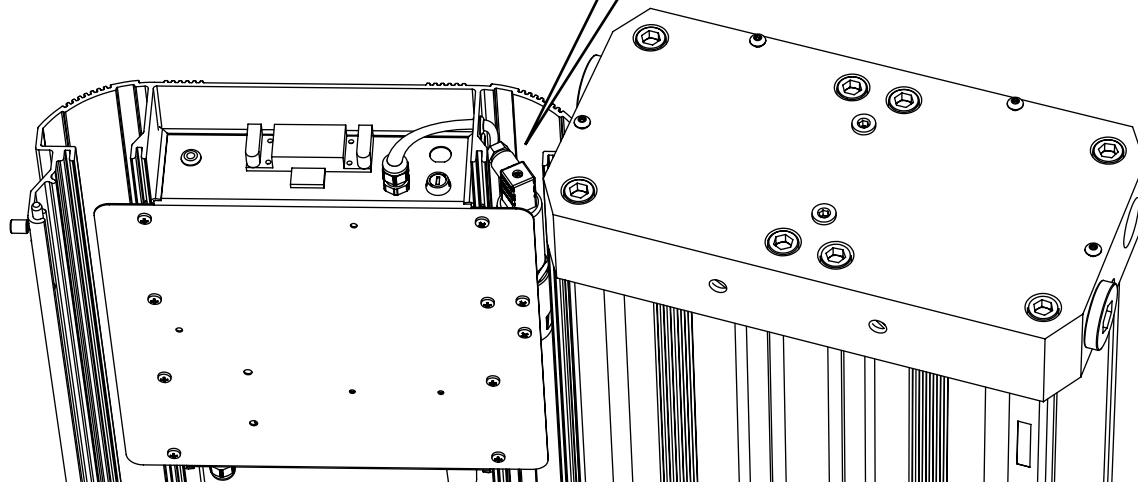

Figure 3.
4. Remove the screw from the sensor plug and detach it from the dew point sensor assembly. (See Figure 3 & 4)
8. Replace the sensor plug and screw to complete the sensor assembly. (See Figure 3 & 4)